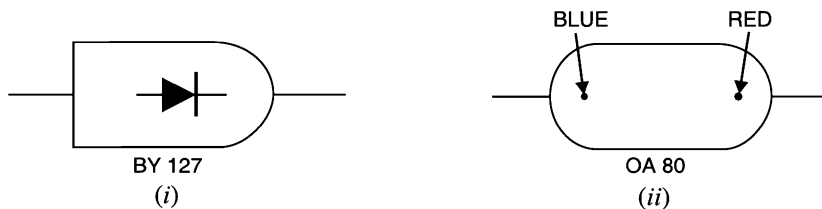

Fig. 6.2
- (i) Some manufacturers actually paint the symbol on the body of the diode *e.g.* BY127, BY114 crystal diodes manufactured by BEL [See Fig. 6.2 (i)].
- (ii) Sometimes, red and blue marks are used on the body of the crystal diode. Red mark denotes arrow whereas blue mark indicates bar *e.g.* OA80 crystal diode [See Fig. 6.2 (ii)].